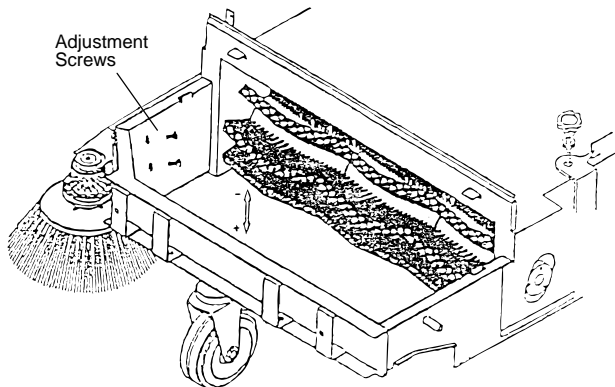

FIG. 4.
1. The side brush is adjusted by loosening two screws (Figure 4).